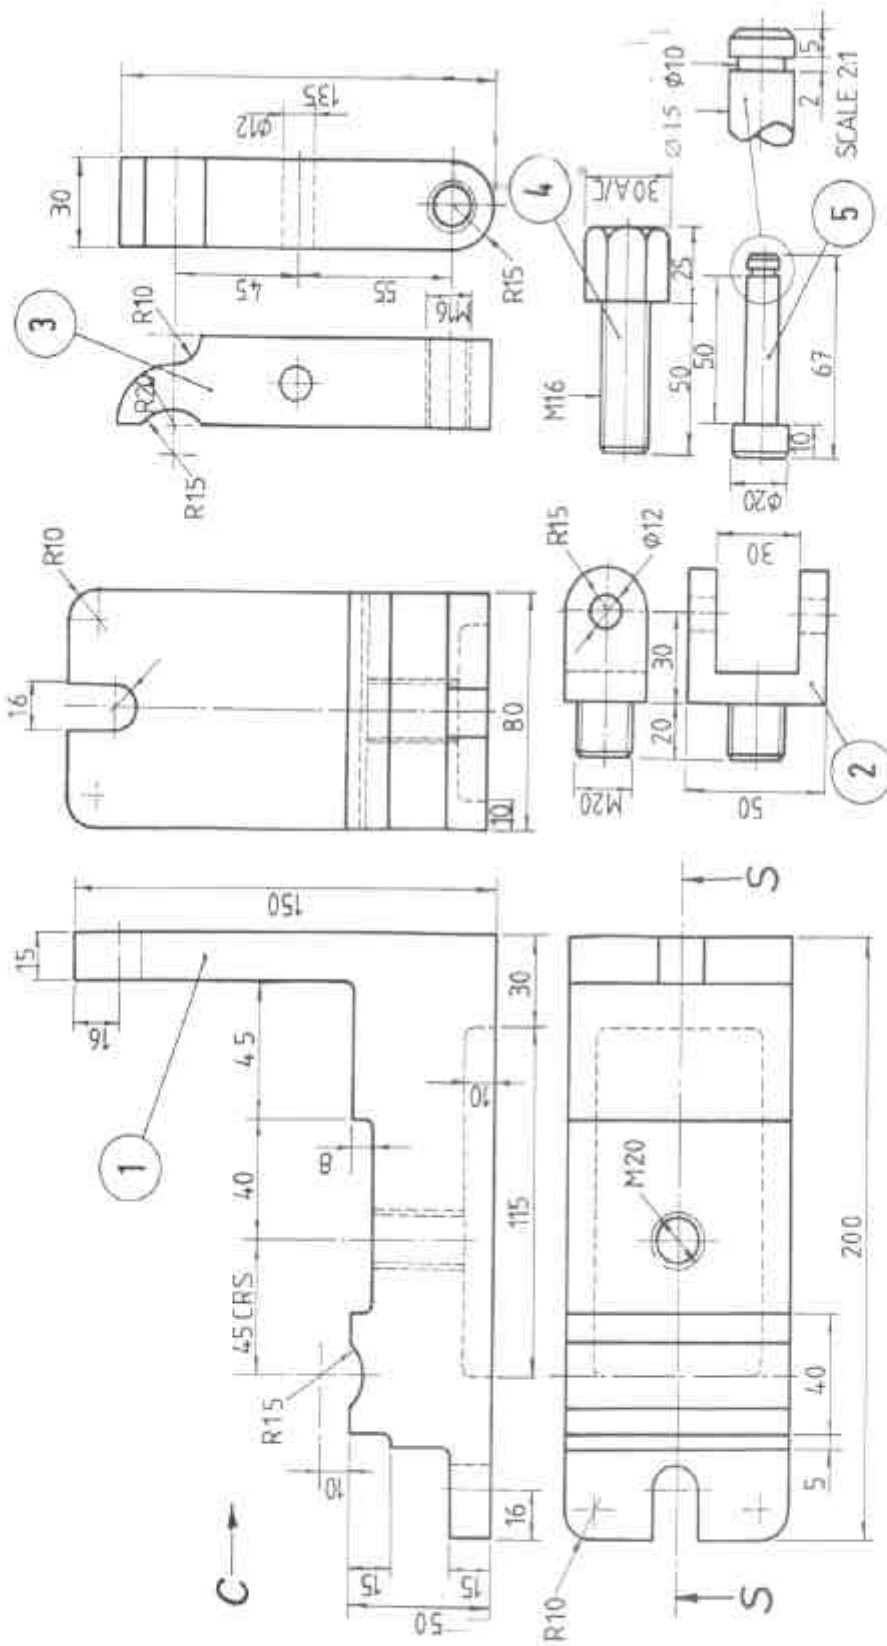

FIG.1 F10R.1
1. Details of a "Pipe Welding Clamp" are given in Fig. 1 with a parts list tabulated below.